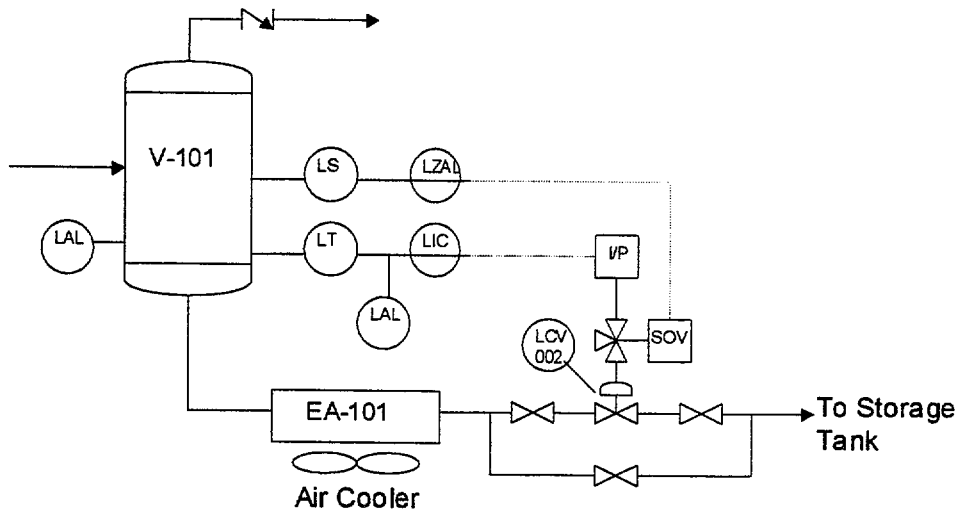

Figure 1. *Pressure vessel handling flammable material at high pressure*
b) Figure 1 shows a pressure vessel V-101 handling flammable material operating at an elevated pressure of 16 barg. Liquid from the vessel is cooled and is discharged into a tank, which is not designed to withstand full vessel pressure. The liquid level in the vessel and the pressure let down across the liquid control valve LCV-002 are maintained. In the event of failure of the control valve, it is possible that high pressure gas breaks through into the low pressure system.